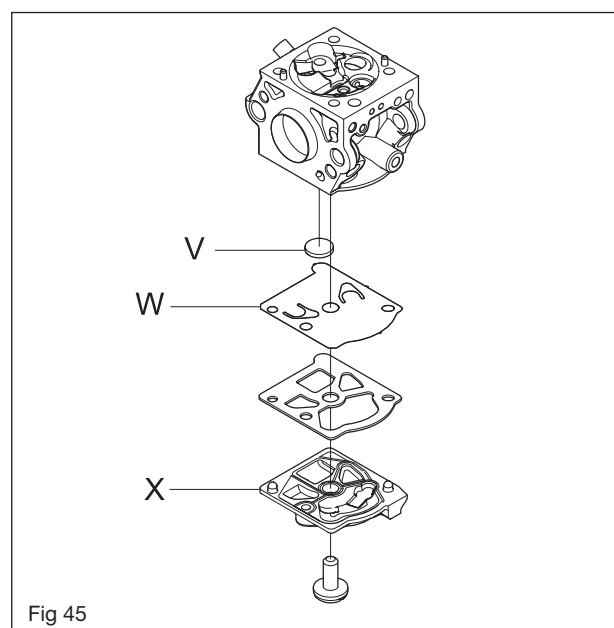

Fig 45
Dismantle the cover (X) and carefully remove the pump diaphragm (W) with gasket. See Figure 45.
Use a needle or similar and carefully lift up the fuel screen (V). See Figure 45.
If necessary, remove the throttle valve (AB) and choke valve (AC), as well as removing the shafts with lever arms and springs. See Figure 45.
4. That the fuel screen (V) is intact and clean. See Figure 45.